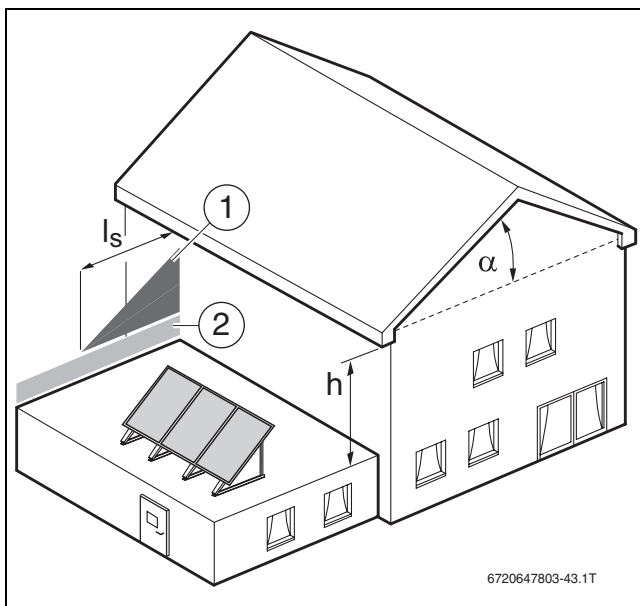

Fig. 13
- Prevent height differentials (→ Fig. 13).
Where there are height differentials in the roof, prevent snow loads from sliding down from a roof pitch of $\alpha > 15^\circ$. The length of the additional load through sliding snow loads results from the height differential (→ Fig. 13): $l_s = 2 \times h$